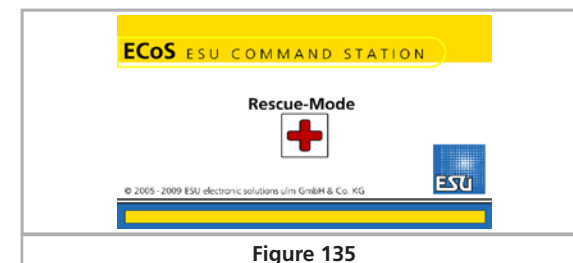

Figure 135
When you see the screen as per Figure 135 the rescue mode is active. Now you can start installing the operating system via the web interface. You can influence the IP settings.
- Please hold down both buttons during the start-up of your command station (screen as per figure 135 will open).